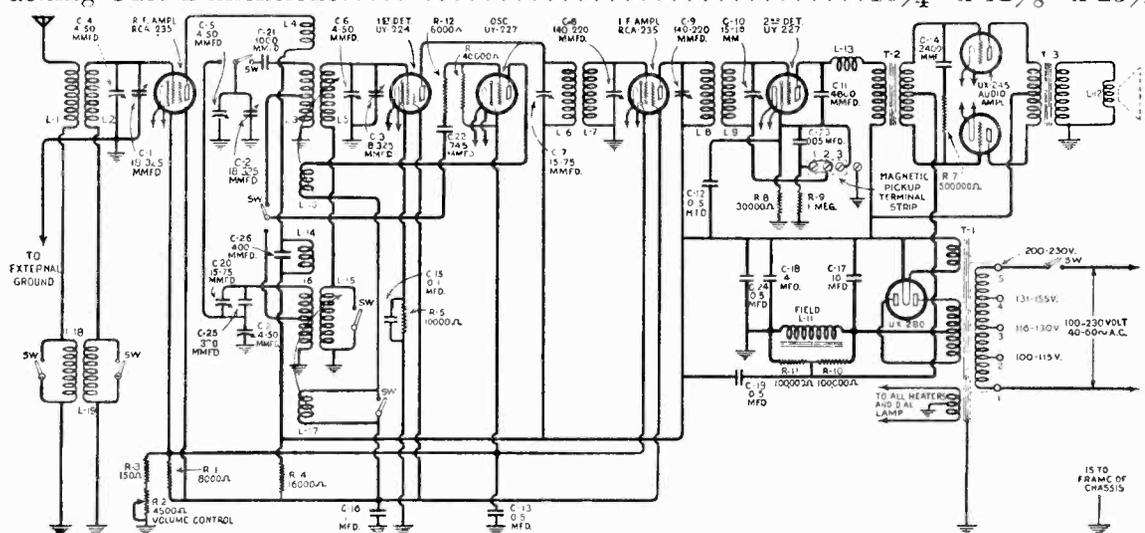
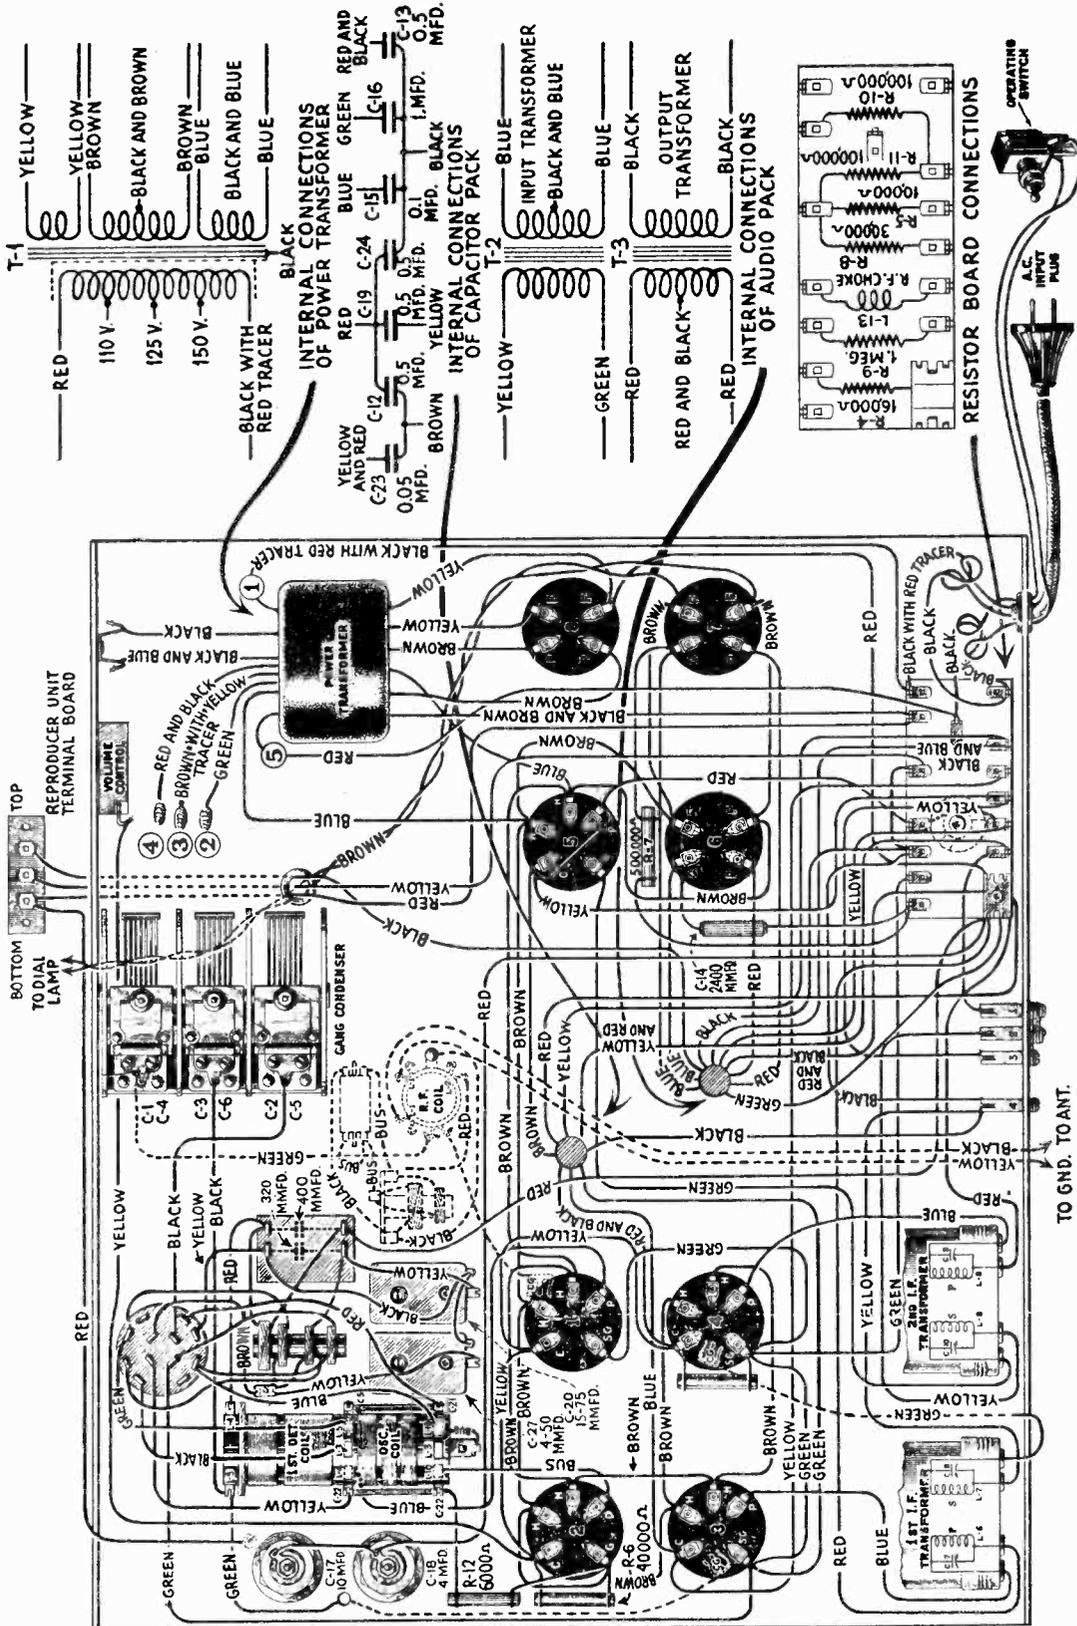
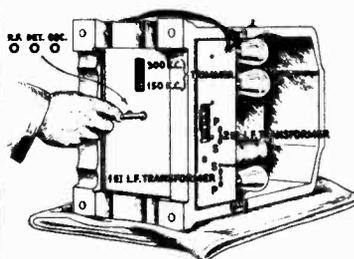
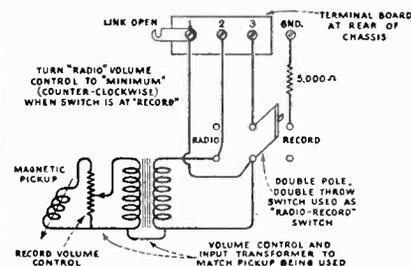

Figure 1—Schematic circuit diagram of R-7-LW
Figure 4—Wiring diagram of R-7-LW
Figure 2—Location of various line-up capacitors
Figure 3—Magnetic Pickup Connections
Figure 1 shows the schematic circuit diagram. Figure 2 shows the location of the various line-up capacitors. Figure 3 gives the correct connections for attaching a magnetic pickup to the R-7-L.W. and Figure 4 shows the wiring diagram. The voltage readings obtained at the Radiotron sockets with one of the usual set analyzers are given on page 3.
- (d) Now adjust the secondary and primary of the second and first I.F. transformers until a maximum reading is obtained in the output meter. See Figure 2. Go through these adjustments a second time as a slight readjustment may be necessary.
- (e) With the socket wrench adjust the oscillator, first detector and R.F. line-up condensers until a maximum deflection is obtained in the output meter. (See Figure 2).
- (f) Set the oscillator at 300 K.C. Set the Selector Switch to the right for the low frequency band and tune in this signal with the receiver. Adjust the Volume control for a deflection in the output meter. Now adjust the 300 K.C. condenser Figure 2 until maximum output has been obtained. Rock the gang condenser back and forth while making this adjustment.
- (g) Set the oscillator at 150 K.C. and repeat as in (f) only adjust the 150 K.C. trimming condenser shown in Figure 2.